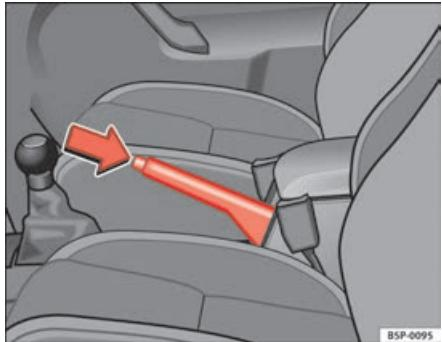

Fig. 105 Handbrake between the front seats
- Pull the handbrake lever up firmly ⇒ **fig. 105**.
- Pull the lever up slightly and press the release knob in the direction of the arrow ⇒ **fig. 105** and guide the handbrake lever down fully ⇒ **!**.